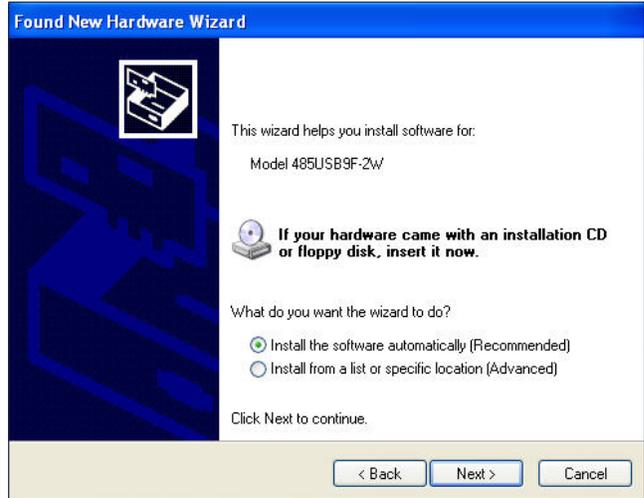

Figure 3—Recommended Driver Installation
5. On the following window, select “Install the software automatically (Recommended),” then click *Next* (Figure 3).